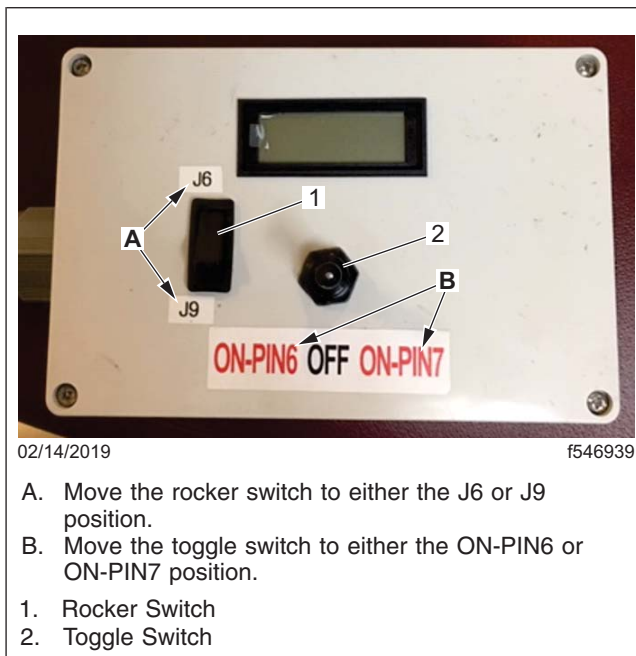

Fig. 4, Tester Components
8. With the test probe plugged into the F6 and F7 locations of the PDM, ensure that the tester rocker switch is on the J6 location. See Fig. 4, ref. A and item 1.
9. Move the momentary toggle switch on the tester to the ON-PIN6 location. See Fig. 4, ref. B and item 2. This will read the voltage drop on the J6 connector in the Pin 6 location.
10. Move the momentary toggle switch to the ON-PIN7 location. See Fig. 4, ref. B and item 2. This will read the voltage drop on the J6 connector in the Pin 7 location.
12. With the test probe plugged into relay 18, ensure that the tester rocker switch is on the J9 location. See Fig. 4, ref. A and item 1.
13. Move the momentary toggle switch on the tester to the ON-PIN6 location. See Fig. 4, ref. B and item 2. This will read the voltage drop on the J9 connector in the Pin 6 location.
14. Move the momentary toggle switch to the ON-PIN7 location. See Fig. 4, ref. B and item 2. This will read the voltage drop on the J9 connector in the Pin 7 location.